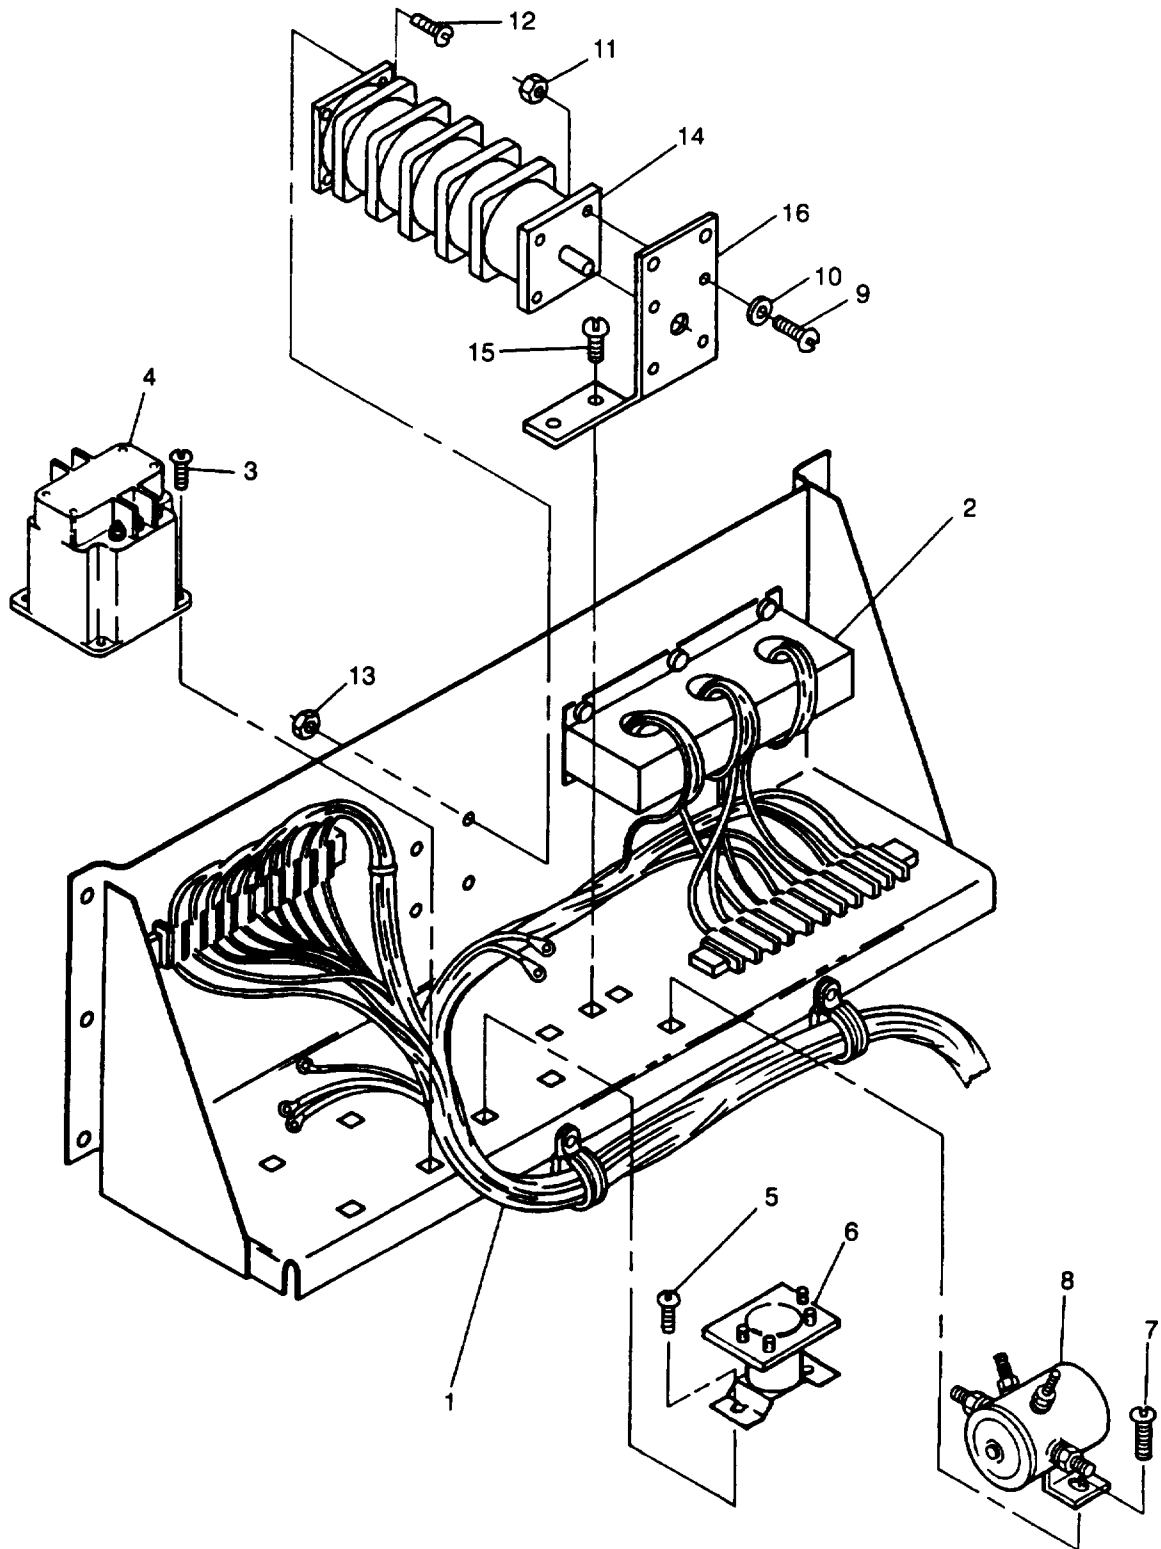
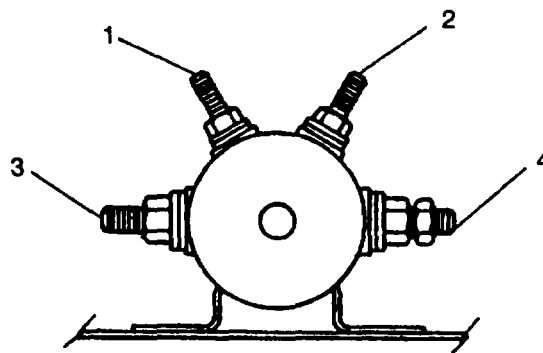

Figure 2-16. Output Box Assembly
Figure 2-17. Pre-Heat Relay Terminals
- d. Inspect wiring harness (1, Figure 2-16) for burned, bent, corroded, and broken terminals.
- c. Inspect current transformer (2, Figure 2-16) for cracks, loose or stripped threads, and evidence of overheating.
- c. Tag and disconnect current transformer (2, Figure 2-16) electrical leads from secondary terminals.
- d. Inspect AC circuit interrupter relay (4, Figure 2-16) for dents, cracks, and loose or stripped studs.
- d. Tag and disconnect electrical leads to AC circuit interrupter relay (4, Figure 2-16).
- e. Remove screws (3) and AC circuit interrupter relay (4) from output box.
- a. Install AC circuit interrupter relay (4, Figure 2-16) with screws (3) in output box assembly.
- d. Inspect cranking relay (6, Figure 2-16) for dents, cracks, and loose or stripped studs.
- d. Disconnect and tag electrical leads to cranking relay (6, Figure 2-16).
- e. Remove screws (5) and cranking relay (6) from output box assembly.
- d. Tag and disconnect wires from terminals X1, X2, and A2 of cranking relay (6, Figure 2-16).
- a. Install cranking relay (6, Figure 2-16) with screws (5) in output box assembly.
- d. Inspect pre-heat relay (8, Figure 2-16) for dents, cracks, stripped studs, and missing parts.
- d. Tag and disconnect electrical leads from preheat relay (8, Figure 2-16).
- e. Remove screws (7) and relay (8) from output box.
- d. Tag and disconnect wires from pre-heat relay (8, Figure 2-16) terminals 1, 2 and 3. See Figure 2-17 for terminal positions.
- a. Install pre-heat relay (8, Figure 2-16) in output box with screws (7).
- d. Inspect voltage reconnection switch (14, Figure 2-16) for cracks, missing parts, and loose hardware.
- d. Tag and disconnect electrical leads to voltage reconnection switch (14, Figure 2-16).
- a. Install mounting bracket (16, Figure 2-16) with screws (15) in output box assembly.